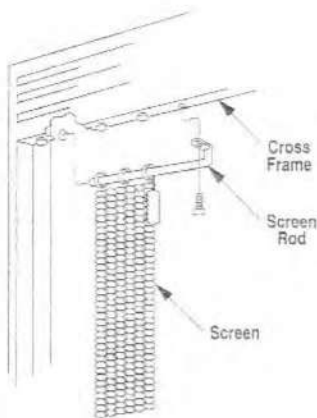

Figure 41
Step 11. Installing the Screens - Two (2) mesh screen panels and mounting hardware are packaged in the carton with the logs. Slip the rings on each screen over the mounting rod, positioning the brass pull at the formed/bent end. Insert the straight end into hole in sidewall and fasten to frame with sheet metal screw at mounting hole approximately 4" (102 mm) from each end (Figure 41).